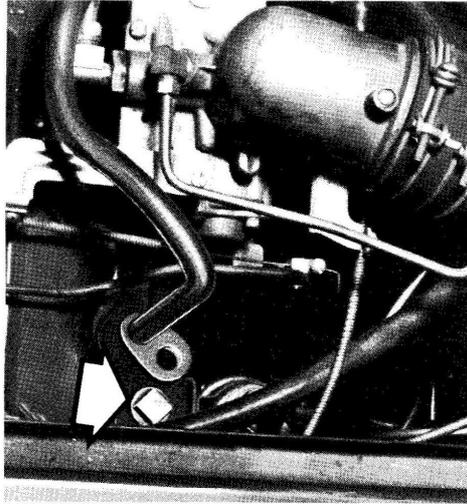

Fig. 14. Pipe plug to be removed.
- b. Remove the 1/2" pipe plug located at the top rear of the cylinder head, Fig. 14.